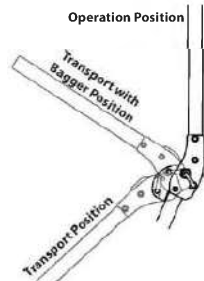

Figure 3-2
Refer to Figure 3-2 and the following descriptions and uses for the three (3) positions for the ROPS.
2. Move the ROPS into the desired position. The three positions are TRANSPORT position, TRANSPORT WITH BAGGER position and OPERATION position. See Figure 3-2.